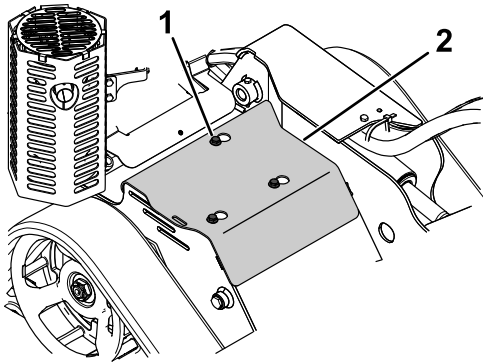

Figure 20
3. Loosen the 3 bolts securing the cover plate to the frame sequentially until the cover is loose (Figure 20).
1. Bolt (3)
5. To install the cover plate before operating the machine, slide the plate into place and tighten the 3 bolts you loosened previously (Figure 20).